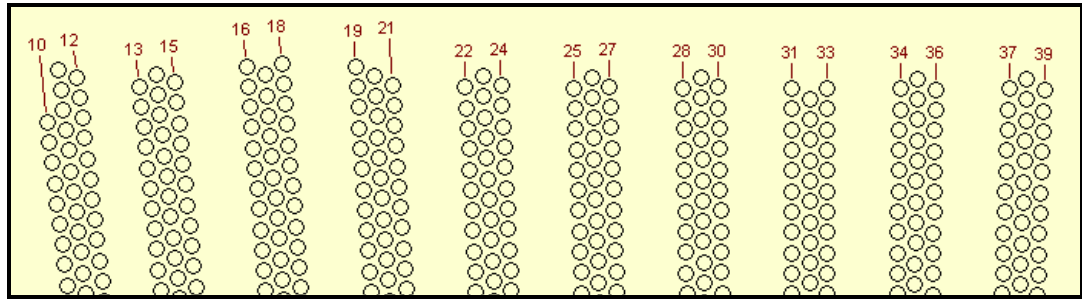

Figure 38. Groups of Tubes Beginning With a First Row Other Than '1'
- ❑ **First Row:** Enter the row number of the first row in the group. The default is '1' (one); however, additional groups may begin with a row number other than '1' (one). In Figure 38, ten (10) groups of tubes are shown, all assigned to the same section. Note that each group begins with a different **First Row** number. Figure 38 is a portion of a complex main condenser tubesheet map, which was captured from the main **MakeComp** window.
- ❑ **Group Angle:** This parameter allows the user to rotate a group to any desired angle. This feature is especially useful when building complex tubesheet maps such as main condensers containing steam lanes at a variety of angles. If no rotation is desired, set the field to '0' (zero). In Figure 38, each group shown is rotated about 1° from the adjacent group. Furthermore, note that the general direction of the rows is vertical and numbered from the top to the bottom.